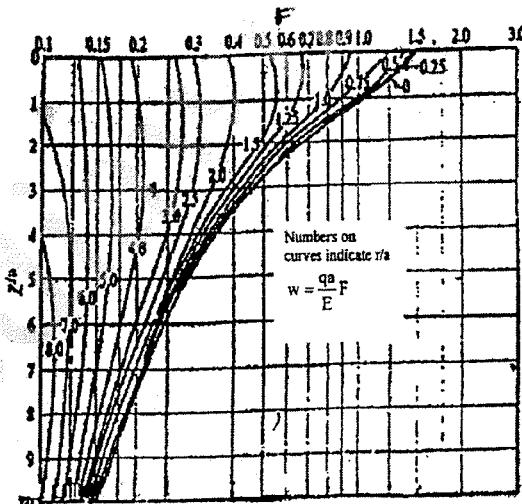

Fig.Q.2(b)
b. A dual wheel load assembly with 70kN load on each wheel and contact pressure of 0.7kN/mm² is applied on a homogeneous mass with modulus of elasticity 12N/mm². If the centre to centre distance between the two wheel is 600mm, determine the deflection value at a depth of 0.5m at four points, at the centre of dual wheels and at radial distance of 300, 600 and 900mm from this centre along the line joining centers of the two wheel loads. Use deflection factor chart Fig.Q.2(b). (08 Marks)